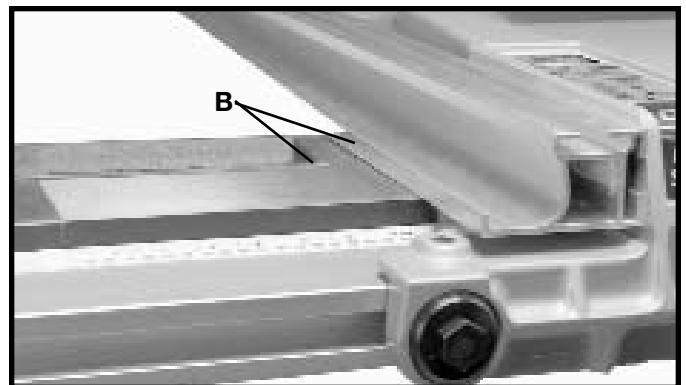

Fig. 47
When ripping material with a veneer facing and the material is not thick enough for the veneer to extend over the lip of the fence or if the veneer facing (B) is on both sides of the material, as shown in Fig. 47, the fence can be positioned slightly above the surface of the table. The veneer can be placed between the fence and the table or the veneer can straddle the fence with the material solidly against the fence.